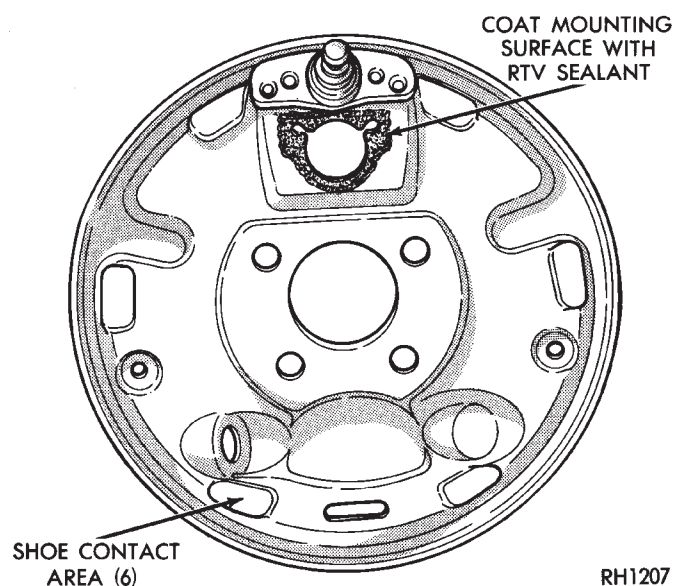

Fig. 4 Apply Sealant on Support Plate
- (1) Apply Mopar® Gasket In-A-Tube or equivalent sealant around wheel cylinder mounting surface (Fig. 4).
- (2) Install wheel cylinder onto brake support, and tighten the wheel cylinder to brake support plate attaching bolts to 8 N•m (75 in. lbs.).